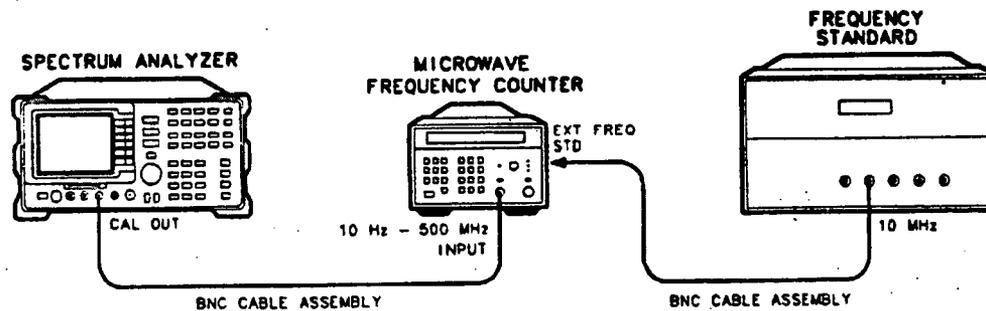

Figure 2-7. 10 MHz Reference Adjustment Setup
1. Connect the equipment as shown in Figure 2-7.